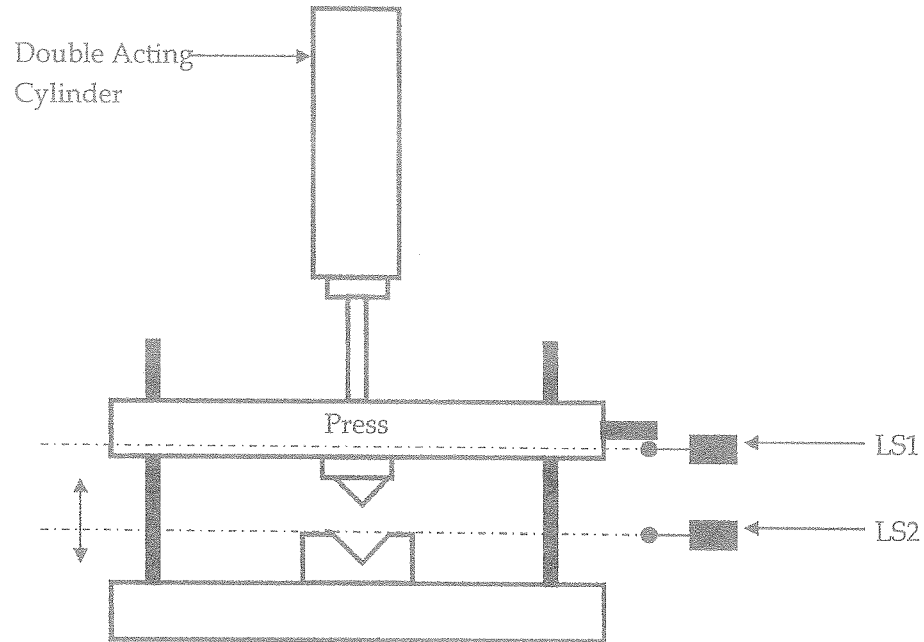

Figure Q2(d): Press Machine
- d) Figure Q2 (d) shows a press machine used in a plastic manufacturing plant. An electro-pneumatic system is used to operate it. Once switched ON, the machine should satisfy the following requirements.